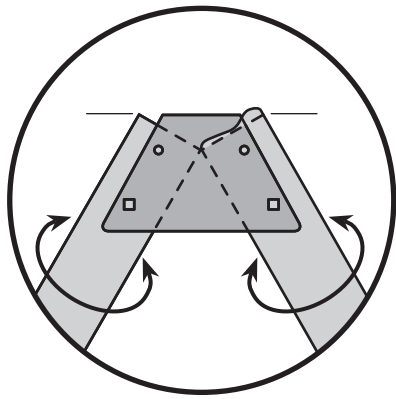

Fig. 1
2. Place the L-bracket on the posts and align with pre-drilled holes. **Fig. 1.**